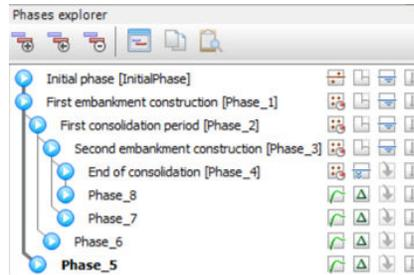

Figure 116: Safety calculation phases
9. Follow the same steps to create new calculation phases that analyse the stability at the end of each consolidation phase. The various phases after defining safety calculation is shown in Figure 116 (on page 137).